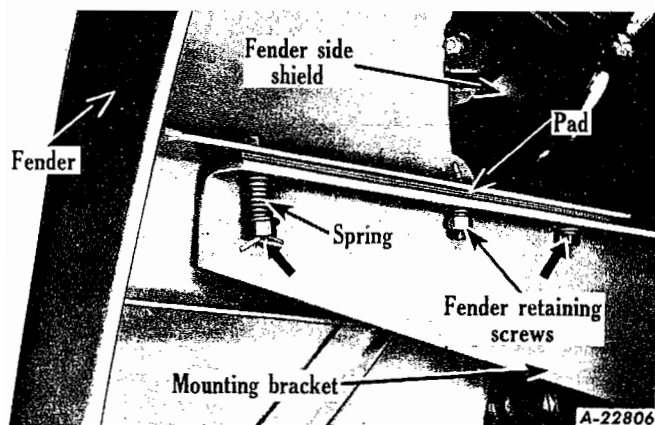

Fig. 71
7. Remove three bracket to fender retaining screws on both sides (Fig. 71).